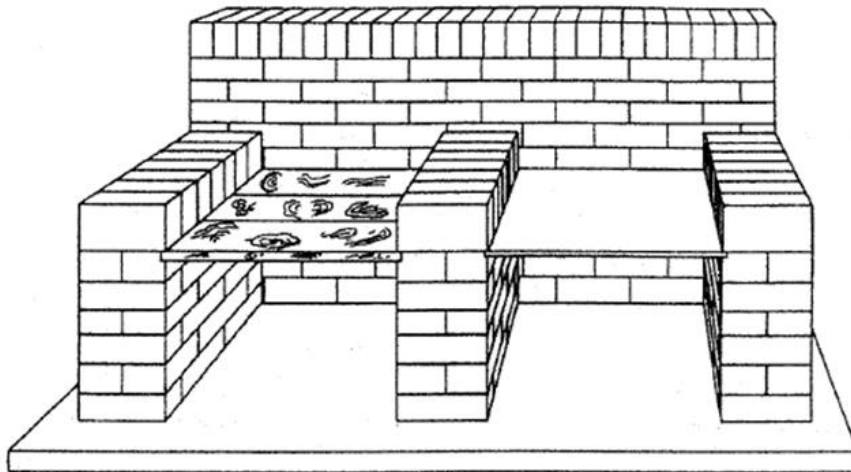

Fig PF-4-1-21 – Perspective Drawing
- Used to show objects and buildings as they appear to the eye on completion. **Fig PF-4-1-21** is a single point perspective. The lines of projection from the front eventually meet at one point.